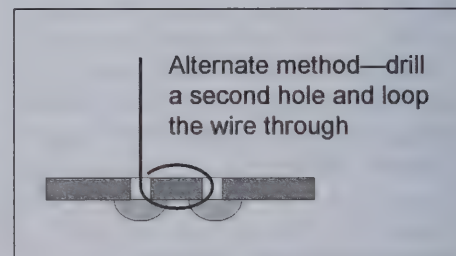

Figure 21—An alternate method for anchoring the wire test point if you don’t mind drilling another hole.
*WA8MCQ comment—*An alternate method, which is a bit more work, is to drill a second hole close to the first one if there is room for it, then loop the wire around as shown in Figure 21.